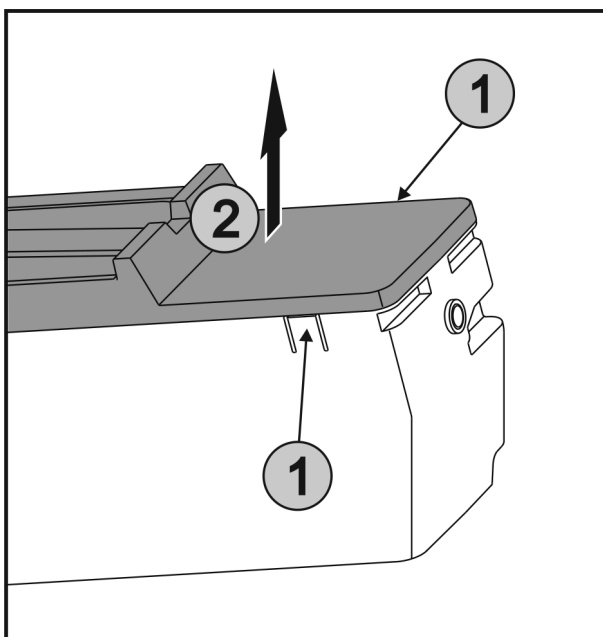

Fig. 40
- ▶ Press the lugs Fig. 40 (1) on both sides of the EasyTwist-Ice simultaneously and take off the lid Fig. 40 (2) to the top.